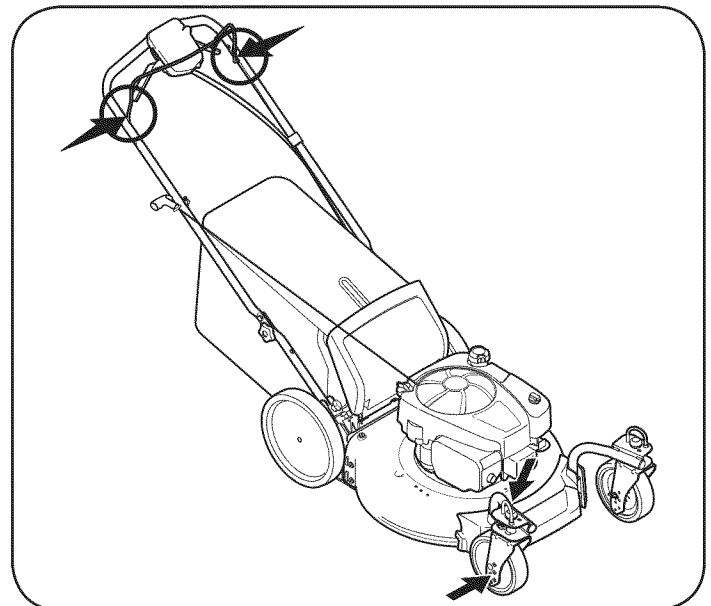

Figure 16
1. Lubricate pivot points on the blade control at least once a season with light oil. This control must operate freely in both directions. See Figure 16.